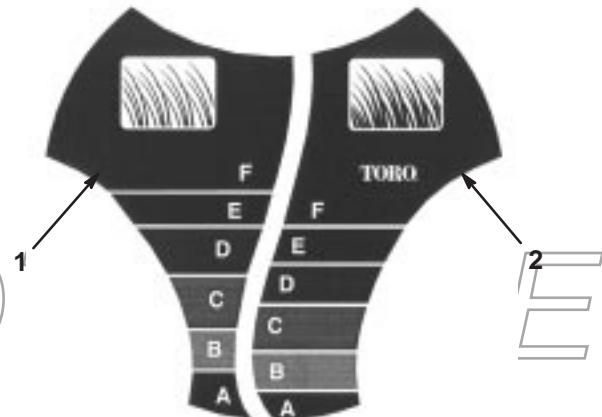

Figure 15
The *SmartWheel™* has two cutting scales: *Sparse/Normal* and *Lush*—to ensure the best cutting height setting in any mowing condition (Fig. 15). Use the *Sparse/Normal* scale during the warm summer season for the majority of your mowing. The *Lush* scale is for thick, moist, and succulent grass that grows most often in the spring.
2. Move the lawn mower into the grass; stop moving the lawn mower when the *SmartWheel* design on one of the rear wheels is upright (Fig. 15).